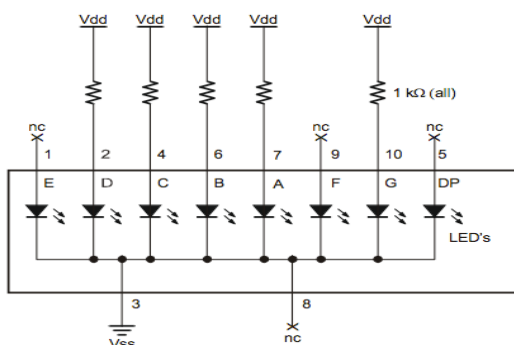

Figure 3.10: Test Circuit Schematic for digit "3" LED display
- Build and test the circuit shown in Figure 3.10 and Figure 3.11, and verify that it displays the number three.